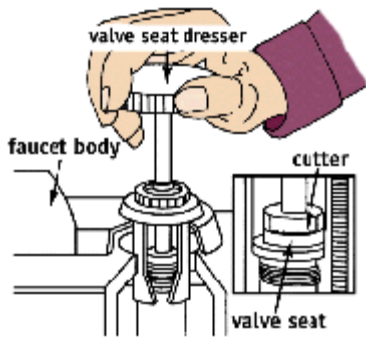

FIG. 2 - To use a valve seat dresser, place the tool in the valve seat and turn until the seat is smooth.
- The washer seat is located inside the faucet body. You probably can't determine if the washer seat is causing the leak just by looking at it. Any faucet that needs frequent washer replacement obviously has a damaged seat. The seat should either be refaced with a seat-dressing tool. A seat-dressing tool is not costly. Every home with washer-type faucets needs one. Use the tool according to the manufacturer's directions, placing it in the faucet along with the packing nut. Then rotate (Fig. 2) until the seat is